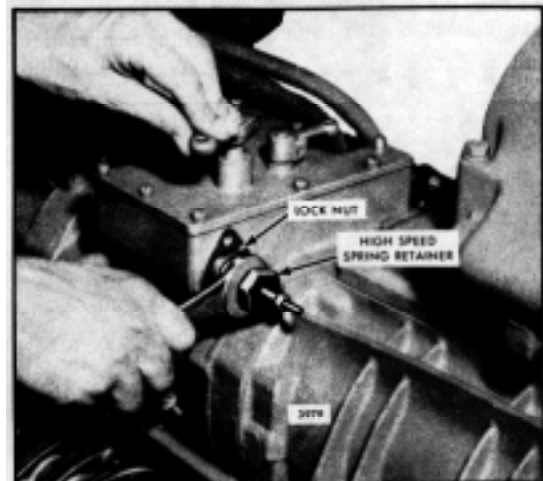

Fig. 13. Adjusting Maximum No-Load Speed
1. Loosen the spring retainer locknut and back off the high-speed spring retainer approximately five turns (Fig. 13).